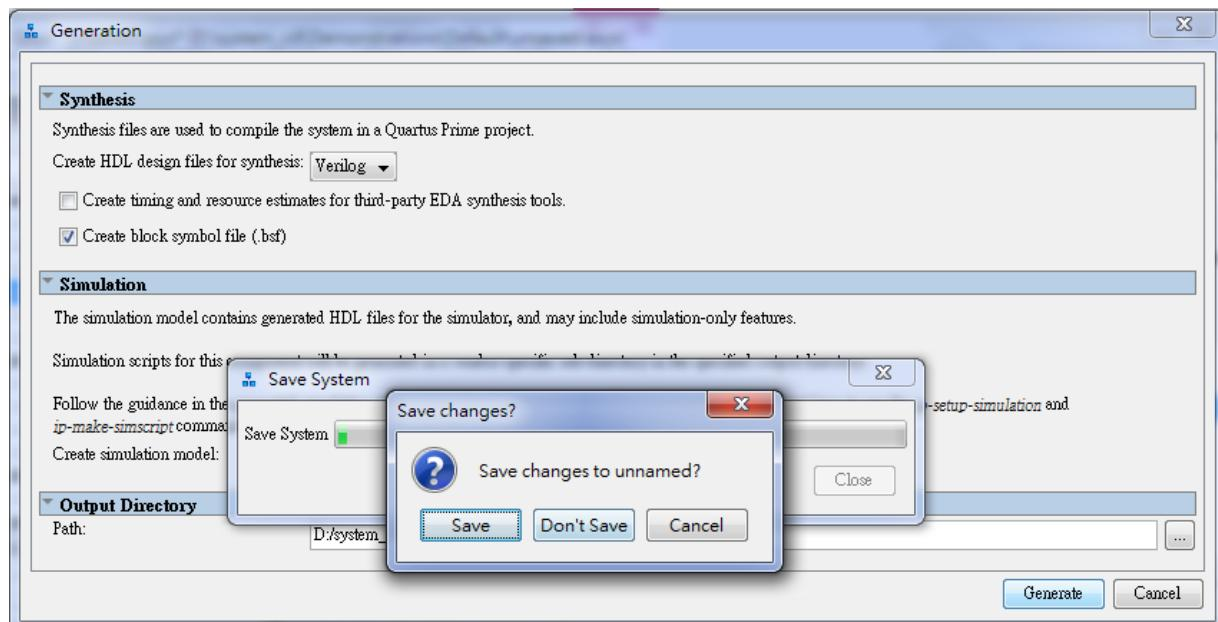
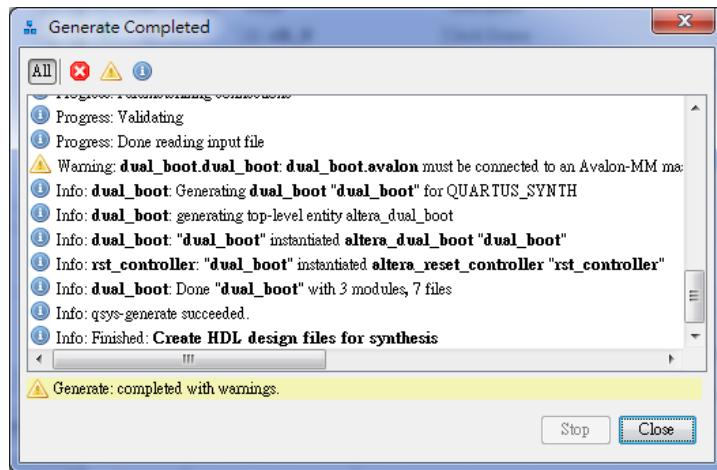

Figure 6-8 Generate and Save Qsys.
Figure 6-9 Generate completed.
4. Choose **Generate > Generate HDL..** and click **Generate** then pop a window as shown in **Figure 6-8**. Click Save it as **dual_boot.qsys** and the generation start. If there is no error in the generation, the window will show successful as shown in **Figure 6-9**.